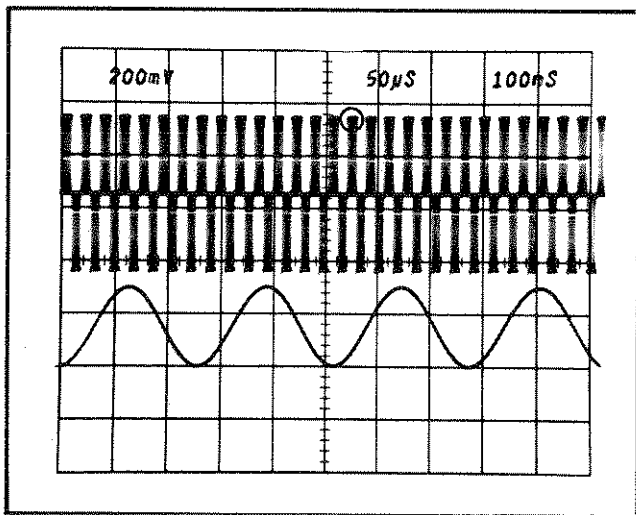

Fig. 2-14. Displaying a complex signal using delayed sweep.
**Example.** Fig. 2-14 shows a complex waveform as displayed on the CRT. the circled portion of the waveform cannot be viewed in any greater detail because the sweep is triggered by the larger amplitude pulses at the start of the display and a faster sweep rate moves this area of the wave-